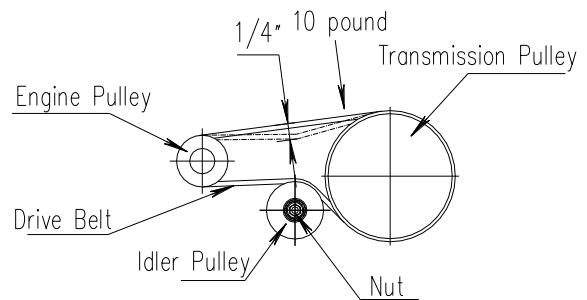

FIG 10
- Transmission drive belt is on the underside of the engine frame weldment. Adjust the belt so that the belt moves 1/4" with 10 pounds of pressure; adjust the tension by moving transmission drive idler pulley, then tighten all the nuts.(See FIG 10)